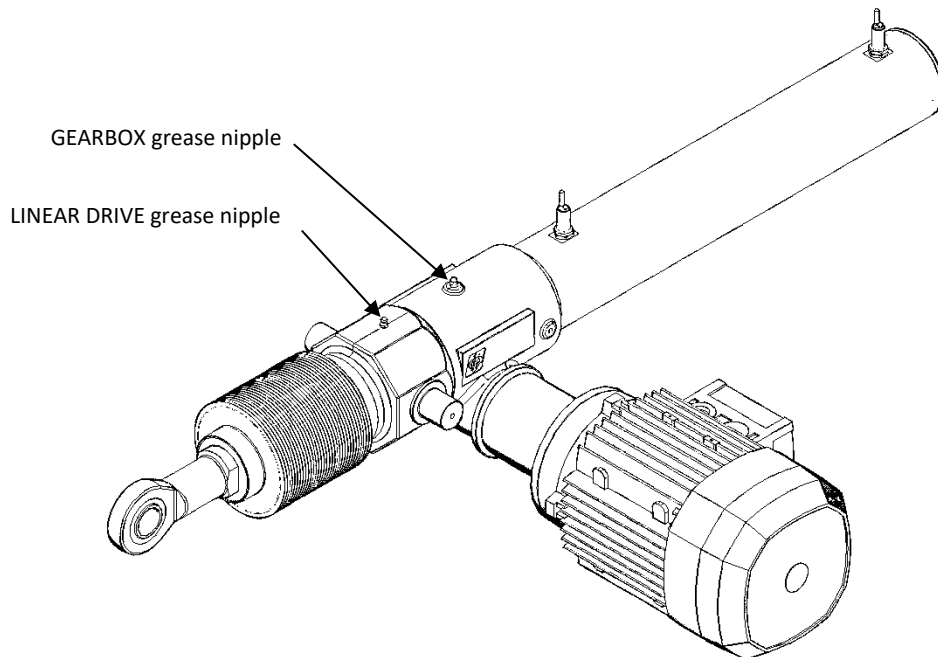

Figure 9.2 – TMA actuator lubrication
- ⚠ Relube the linear actuator using proper grease nipples, as shown on Fig. 9.2.